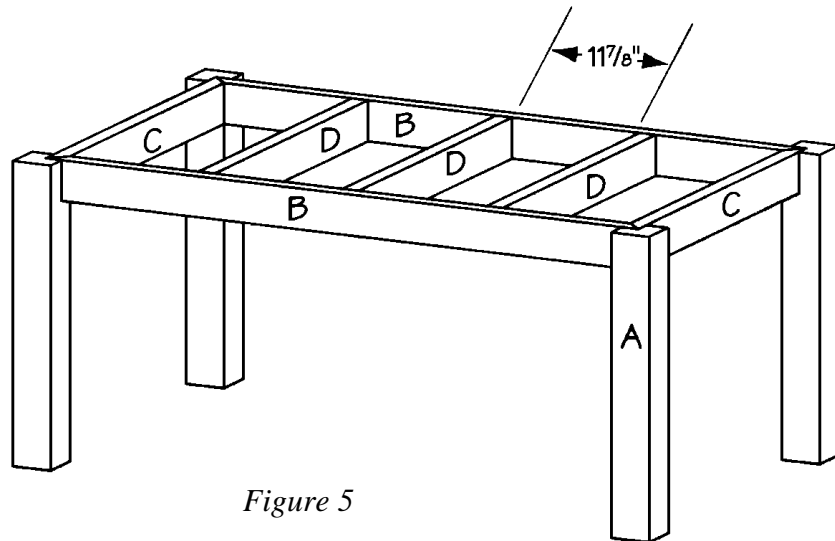

*Figure 4*
1. Turn one leg (A) dado-side down, and fit the dado over one corner of the side assembly, as
shown in *Figure 4*. Apply glue to the meeting surfaces, and screw through both the long side (B) and short side (C) into the leg (A). Use two 2-1/2-inch-long screws on each joint.
2. Repeat Step 1 three more times to attach the remaining three legs (A) to the three corners of the side assembly.
3. On the bottom of each leg, we attached a finial designed to top a fence post. Mark the center bottom of each of the legs (A), and screw in a finial.